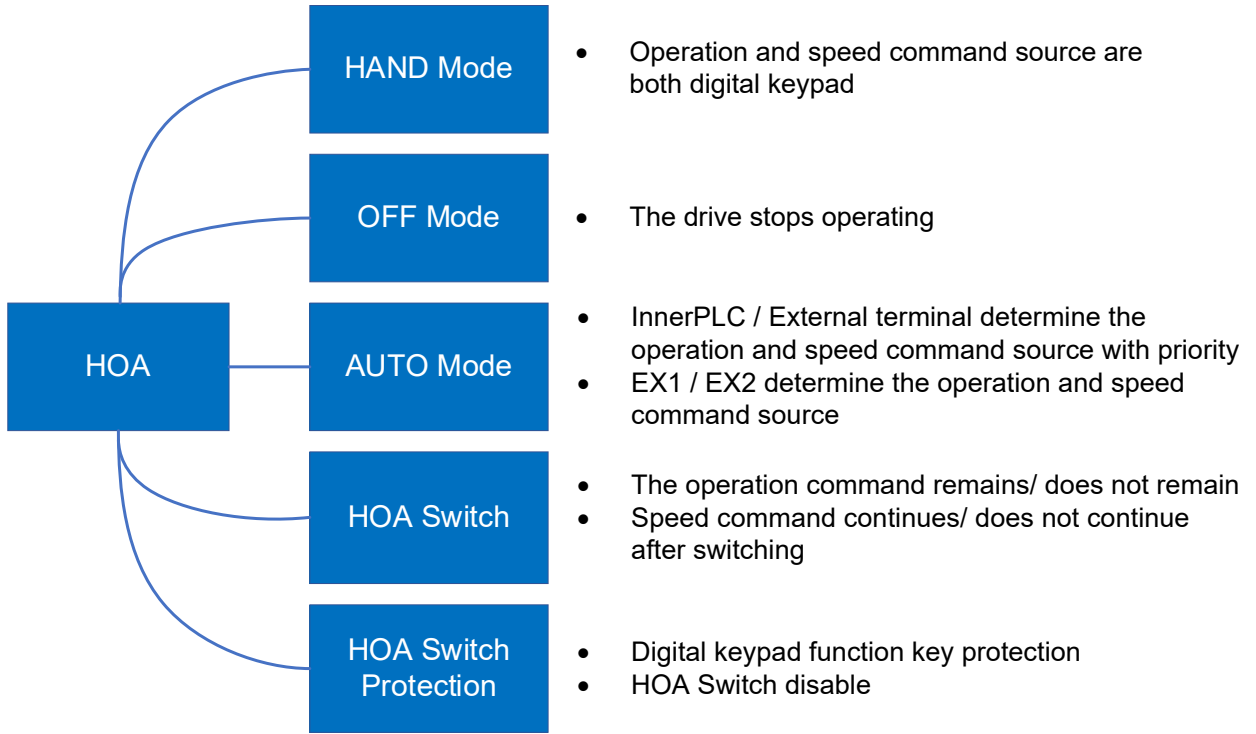

Figure 1: HOA function
- 0: Standard HOA (Hand-Off-Auto) function, refer to Figure 1 below.